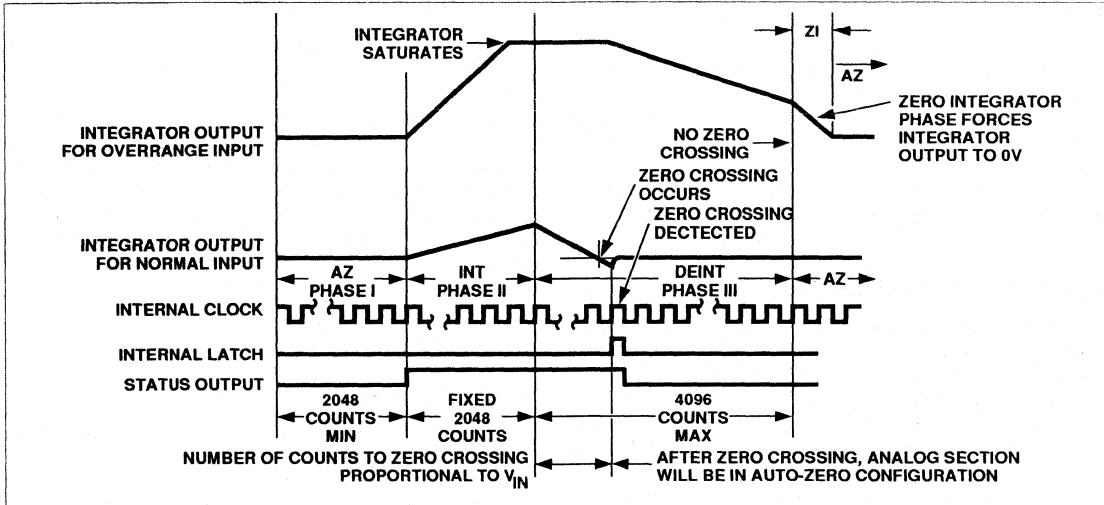

Figure 8 Conversion Timing (RUN/HOLD Pin High)
The Functional Diagram shows a block diagram of the Analog Section of the TC804. The circuit will perform conversions at a rate determined by the clock frequency (8192 clock periods per cycle), when the RUN/HOLD input is left open or connected to $V+$. Each measurement cycle is divided into four phases as shown in Figure 8. They are: (1) Auto-Zero (AZ), (2) Signal Integrate (INT), (3) Reference Deintegrate (DE), and (4) Zero Integrator (ZI).
During ZI, the reference capacitor is charged to the reference voltage. The signal inputs are disconnected from the buffer and integrator. The comparator output is connected to the buffer input, causing the integrator output to be driven rapidly to 0V (Figure 8). The ZI phase only occurs following an overrange and lasts for a maximum of 1024 clock periods.
During a conversion cycle, the STATUS output goes high at the beginning of Signal Integrate and goes low one-half clock period after new data from the conversion has been stored in the output latches. See Figure 8. The signal may be used as a "data valid" flag to drive interrupts, or for monitoring the status of the converter. (Data will not change while STATUS is low). Status is also output on Data Bit 8, when the TC804 is in direct mode (Mode = 0, $\overline{\text{LBEN}} = 1$, $\overline{\text{HBEN}} = 0$).
With RUN/HOLD high or open, the circuit operates normally as a dual slope A/D as shown in Figure 8. Conversion cycles operate continuously with the output latches updated after zero crossing in the deintegrate mode. An internal pull-up resistor is provided to insure a high level with an open input.